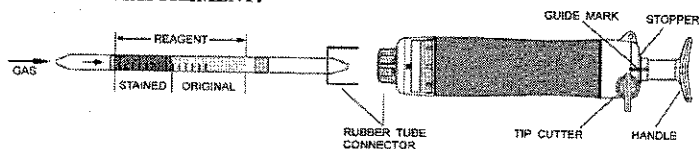

Fig.1
- ② Insert the detector tube into the aspirating pump securely as shown in Fig.1 (Arrow mark shall point to the pump.)
- ③ Align the guide marks on the shaft and stopper of the aspirating pump.
- ④ Pull the pump handle at a full stroke until it locks and wait for 1.5 minutes or until the completion of sampling is confirmed with the flow indicator of the pump (See descriptions about the flow indicator in the instruction manual of the pump).
- ⑤ On completion of sampling, read the scale at the maximum point of the stained layer.
- ⑥ When the concentration is over the scale range, a 1/2 pump stroke can be used to determine concentrations of 130 - 2600ppm.